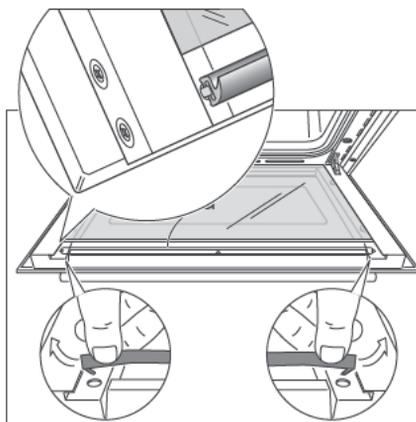

Fig.26d
- Replace the seal "G" by hooking in the two fixing hooks. Make sure that you put it in the correct way. (Fig. 26d).